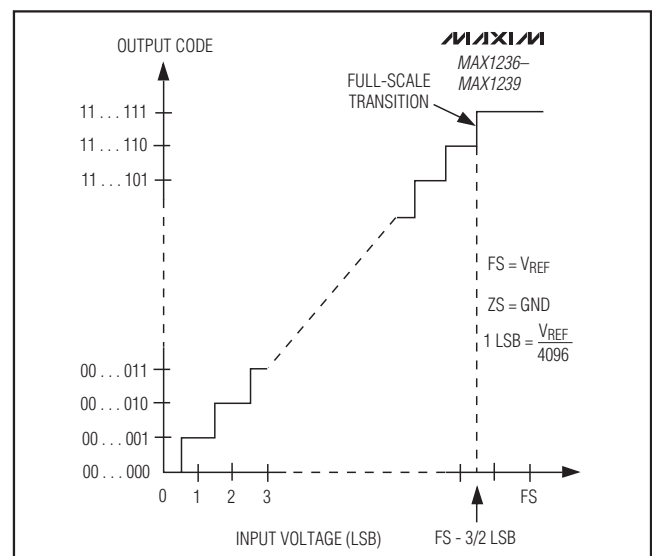

Figure 12. Unipolar Transfer Function
Output data coding for the MAX1236–MAX1239 is binary in unipolar mode and two's complement in bipolar mode with 1 LSB = (V_{REF}/2^N) where "N" is the number of bits (12). Code transitions occur halfway between successive integer LSB values. Figures 12 and 13 show the input/output (I/O) transfer functions for unipolar and bipolar operations, respectively.